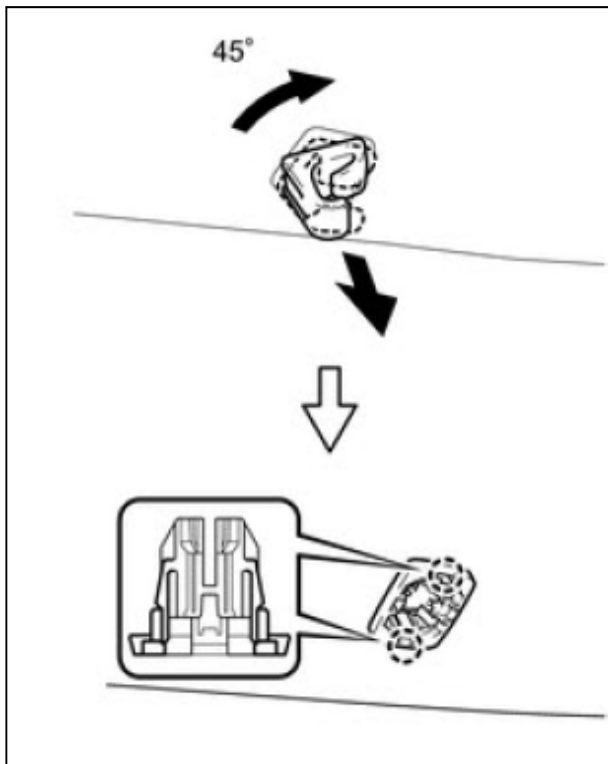

Figure 5
5. Turn the visor holder approximately 45° and pull it out as shown in the illustration. See Figure 5.